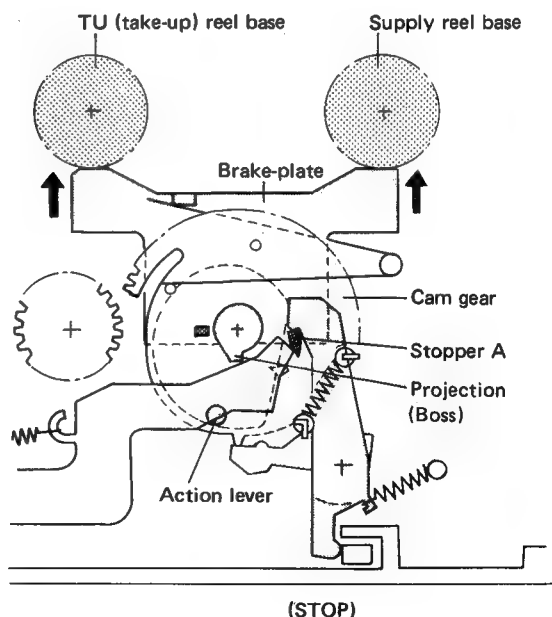
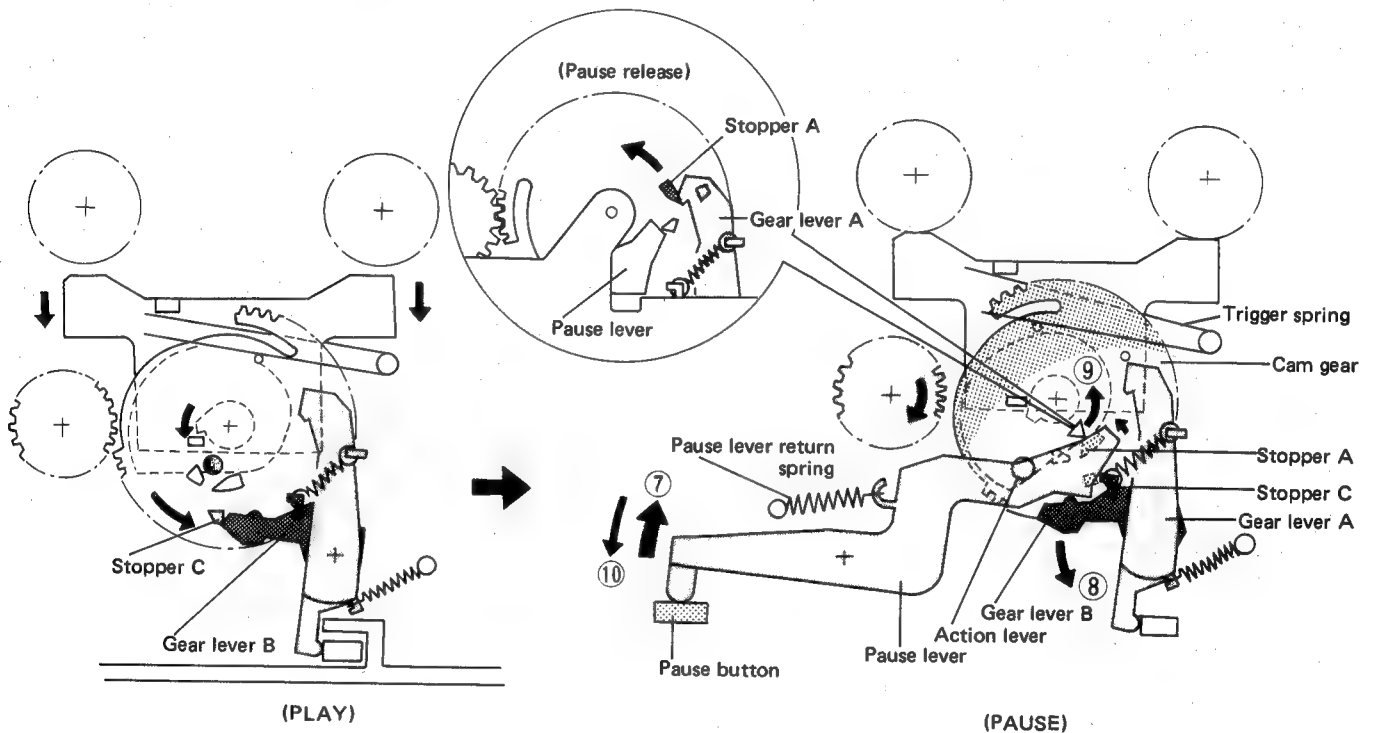

Fig. 13-4 PLAY → STOP operation
Fig. 13-5 PLAY → PAUSE operation
PLAY — STOP Operation (Fig. 13-4)
1. When the STOP button is pressed, the PLAY button lock is released, and the force of gear lever spring A returns gear lever A and B in the direction ⑤. This action separates cam gear stopper C from gear lever B.
2. As cam gear stopper C moves away from gear lever B, the compression force of the trigger spring rotates the cam gear in the direction ② until stopped by contact between cam gear stopper A and gear lever A. (See the right side of Fig. 13-4).
4. At the same time, the shape of the cam gear (machined on the upper surface of the cam gear) returns the action lever in the ⑥ direction, releasing the pressure contact the pinch roller and TU idler are placing on the reel base. The head base also returns to the STOP position, and the PLAY switch is thrown to the STOP side, completing entry into the STOP mode.
**PLAY — PAUSE Operation — PAUSE Release (Fig. 13-5)**
1. When the PAUSE button is pressed (unit in PLAY mode), the cam on the PAUSE button moves the pause lever in the ⑦ direction.
2. The pause lever pushes gear lever B up in the ⑧ direction, releasing the cam gear stopper C. The cam gear starts rotating in the ⑨ direction, stopping at the point cam gear stopper A makes contact with the pause lever tip.